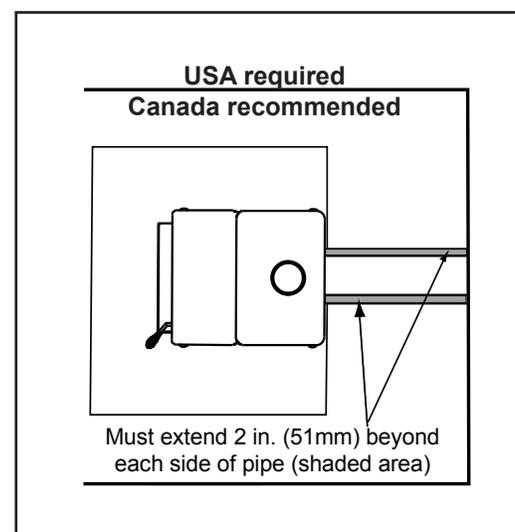

Figure 32.4
***EXCEPTION:** Non-combustible floor protections must extend beneath the flue pipe when installed with horizontal venting and extend 2 inches (51mm) beyond each side. **Figure 32.4.**